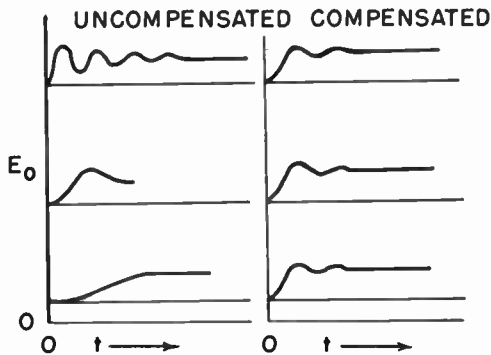

Fig. 5—Step function response of square-root generators.
The transient value of Δ_0 is uniform in the second case while the response given by (15) changes with E_0 . The responses of the two are shown in Fig. 5. The equilibrium conditions are shown as straight lines while the transient